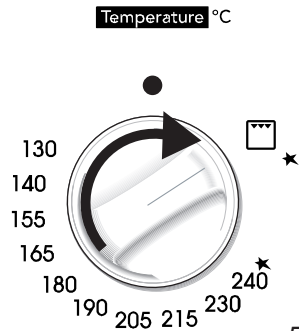

Fig. 2.4
- 2 – Lightly press and turn the thermostat knob clockwise to the position  (fig. 2.4), Press the knob firmly until the burner lights.